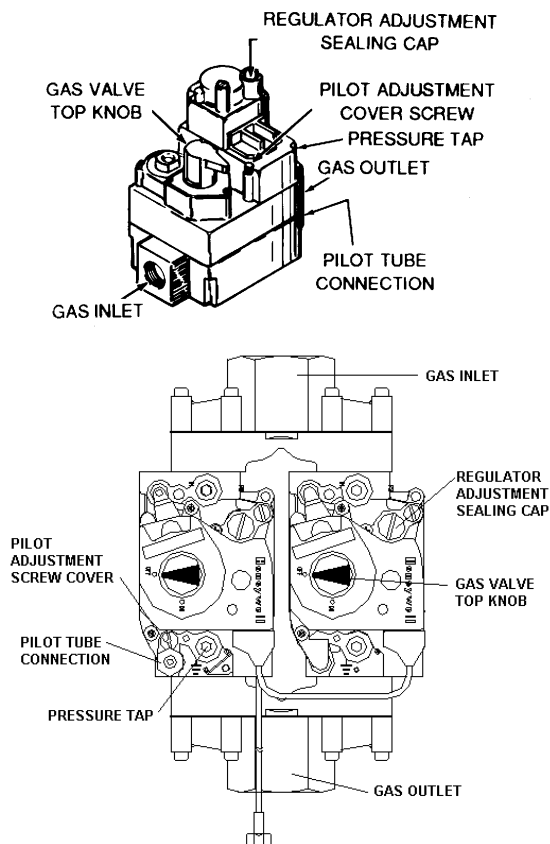

FIGURE 18
- Adjust pilot flame by means of the pilot gas adjustment located on the gas valve. See fig. 18.
Figure 18 shows the two types of combination gas control valves used on these heaters.
3. Remove the regulator adjustment sealing cap, fig. 18, and adjust the pressure by turning the adjusting screw with a screwdriver.